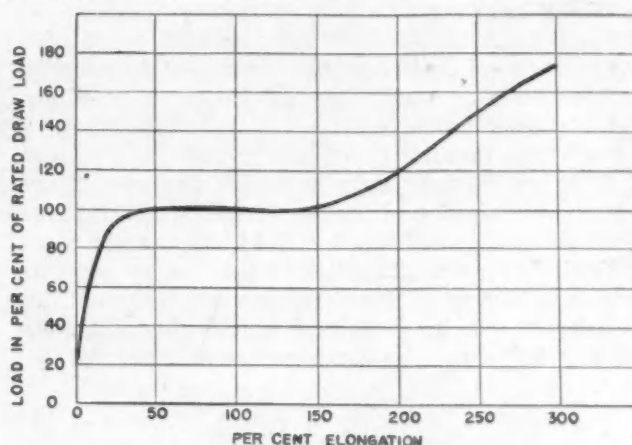

Fig. 1 - Typical load-elongation curve for Unolyn webbing
**P** RINCIPLE of this arresting gear is based on the energy-absorbing qualities of specially treated undrawn nylon material named Unolyn, which has the property of stretching under load to several times its original length, absorbing energy as it stretches, but without building up substantial recoil as a natural rubber band would do. The load *versus* elongation characteristics of this material are shown in Fig. 1.